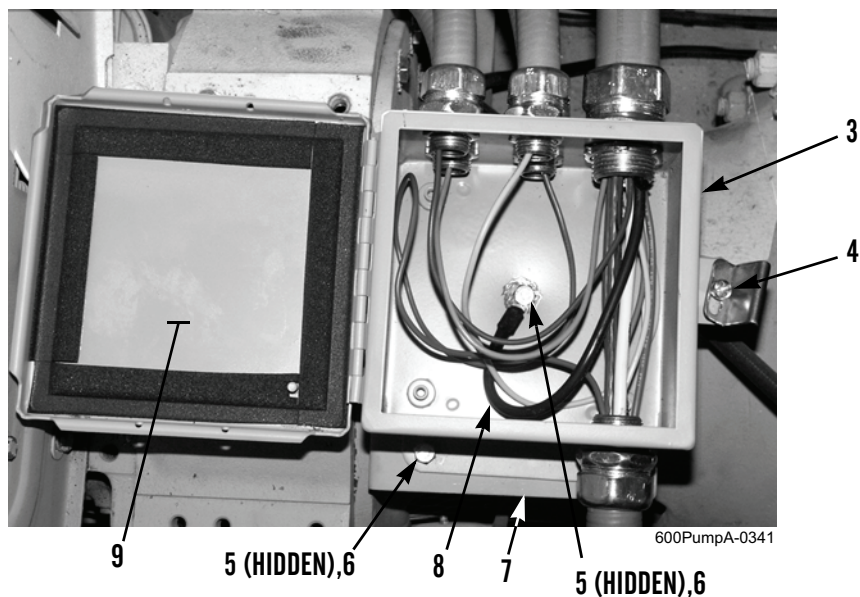

Figure 11. Wiring Harness Junction Box.
8. Position and open wiring harness junction box (Figure 11, Item 3) on mounting bracket (Figure 11, Item 7) at pump intermediate housing and install ground wire (Figure 11, Item 8), five bolts (Figure 11, Item 6), and new locknuts (Figure 11, Item 5).
9. Close cover (Figure 11, Item 9) on wiring harness junction box (Figure 11, Item 3) and tighten screw (Figure 11, Item 4).